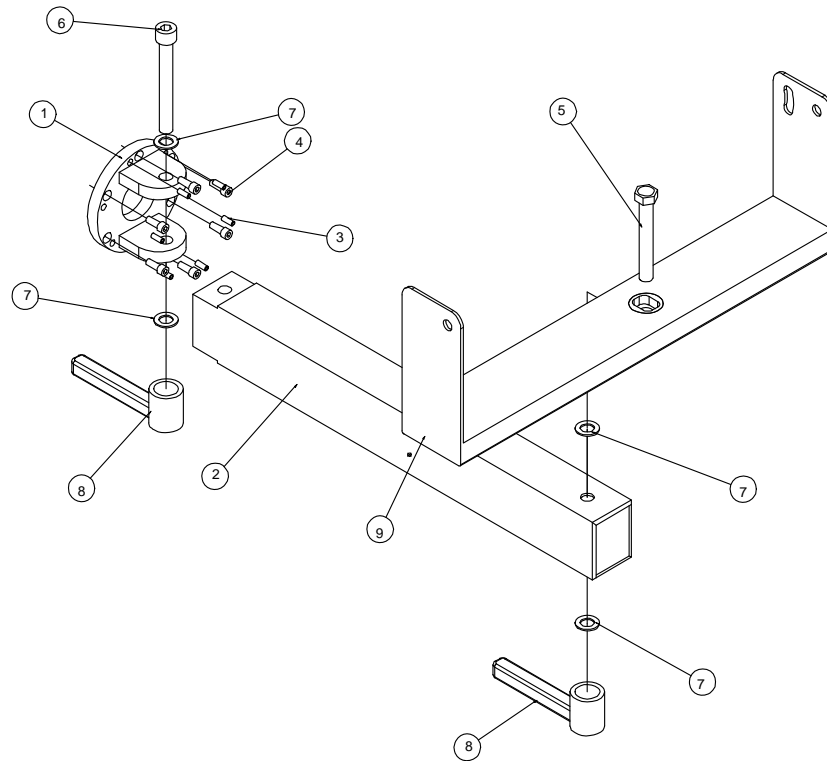

Figure 3-28, Console Arm and Mounting Bracket
1. Locate the Console Arm Mounting Kit, P/N 32500296. This box contains the console arm, P/N 21900165; the console arm mounting bracket, P/N 21900138; two lock handles, P/N 86800109; and the hardware. Refer to **Figure 3-28, Console Arm and Mounting Bracket**.